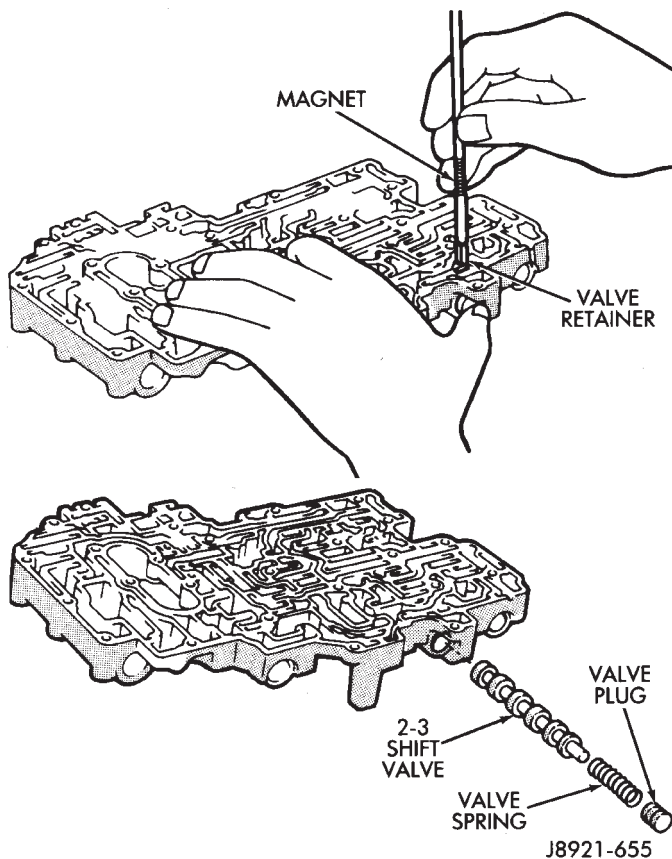

Fig. 12 Removing/Installing 2-3 Shift Valve
(12) Remove 2-3 shift valve retainer and remove plug, spring and 2-3 shift valve (Fig. 12).
(4) Install 2-3 shift valve, spring and plug in valve bore. Press plug inward and install retainer (Fig. 12).